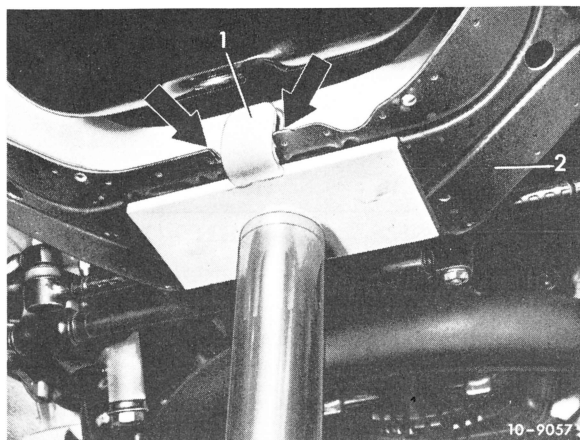
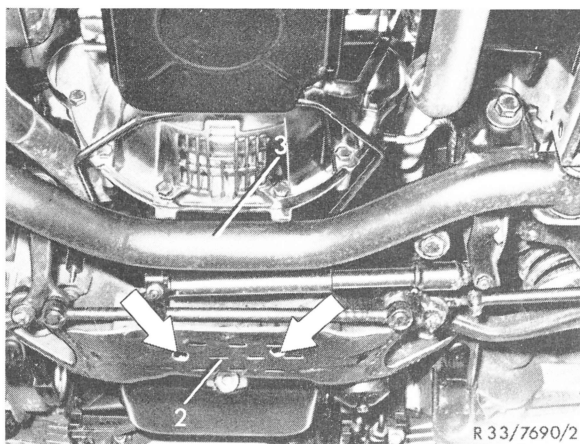

Fig. 3
Fig. 4
To avoid dents on frame cross member (2) of model 116, a special hardwood support has been placed up to now in between the cross member and the shop jack or pit lift. By now, a jacking-up shoe has been developed to replace the hardwood support, which permits reliable lifting of vehicle and transportation of vehicle with jack into shop (Fig. 3).
When positioning shop jack or pit lift, make sure that stop (1) of jacking-up shoe enters the recess (arrows Fig. 3) of frame cross member (2), so that the receiving pins of the jacking-up shoe are reliably entering the paint drain holes (arrows in Fig. 4). Check position prior to lifting vehicle.